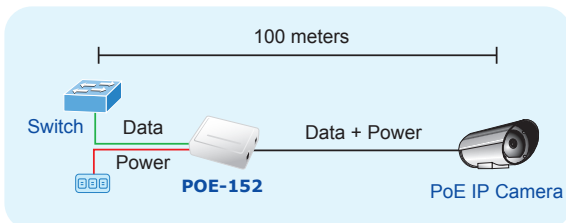

Figure 1: Connection to IEEE 802.3af device
4. Connect with IEEE 802.3af devices, due to the capability of IEEE 802.3af standard, the POE-152 can directly connect with any IEEE 802.3af end-nodes like wireless access point, VoIP phones and Internet camera where support IEEE 802.3af In-line Power over Ethernet port. The screen in Figure 1 appears